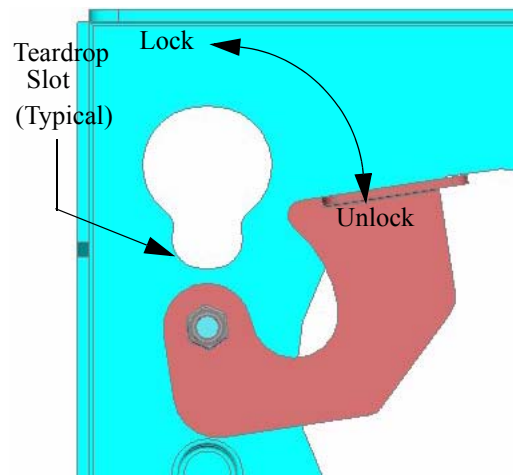

Figure 5. Locking Device
1. Make sure power is not supplied (turned off) to the display and the locking device is in the unlocked (down) position (see Figure 5) before attempting to mount the display.
4. Secure the mounting bracket to the MWH by completely engaging the locking device (see Figure 5).
2. Release the locking device (see Figure 5).